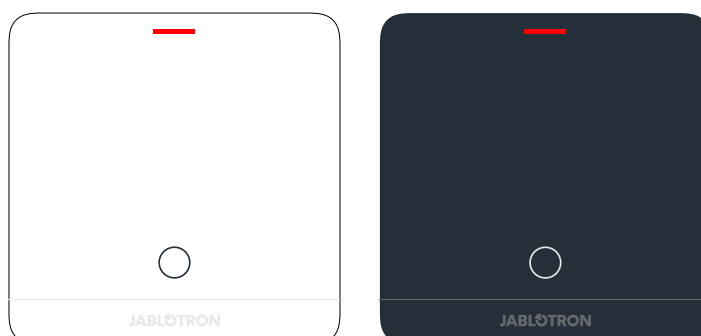

Figure 26 – JB-112TH CO2 sensor
**!** The first three switches have to be set for the corresponding zone (shown zone no. 1, same as in Fig. 26).